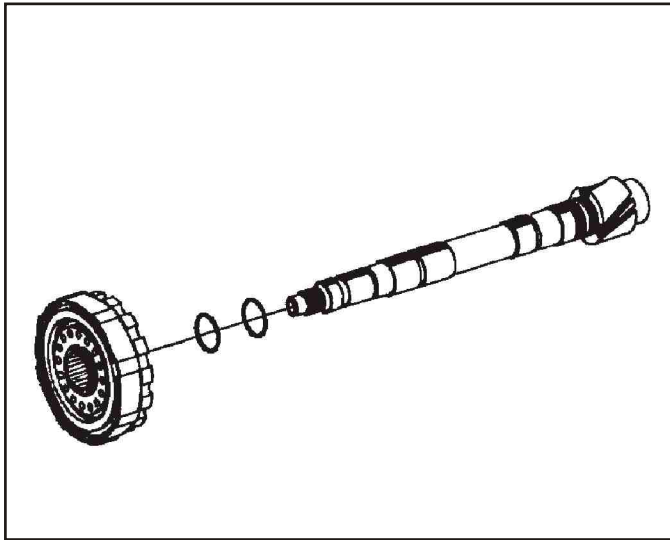

Figure 93
11. Remove the 4th clutch housing and O rings from the output shaft (See Figure 93). **NOTE: It may be necessary to use a press to remove the 4th clutch housing.**